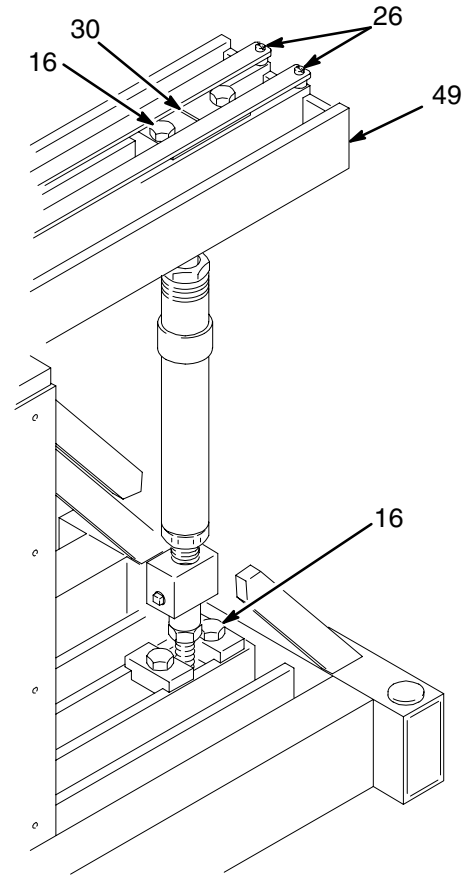

Fig. 6
The numbers of the pump settings, calculated from the procedures in the section, **Calculate the Ratio Setting**, correspond to the scale numbers on the lever arm (49) of the VRHC. See Fig. 6.